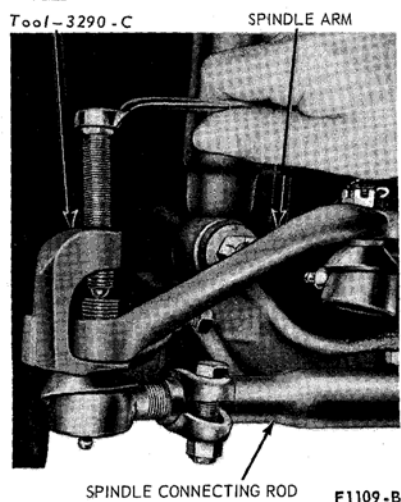

FIG. 3—Removing Spindle Connecting Rod
3. Remove the cotter pin and retaining nut and disconnect and remove the spindle connecting rod from the spindle arms using the tool shown in Fig. 3.
4. Remove the cotter pin and retaining nut, and disconnect the steering drag link from the left spindle arm using the tool shown in Fig. 3.
4. If the spindle is being replaced, remove the spindle arm-to-spindle attaching nut and cotter pin; then drive the spindle arm from the spindle with a soft hammer (Fig. 6). If the original spindle is to be installed, leave the arm assembled to the spindle, but disconnect the spindle arm from the connecting rod end using the tool shown in Fig. 3. On the left spindle, also disconnect the steering drag link from the spindle arm using the same tool.